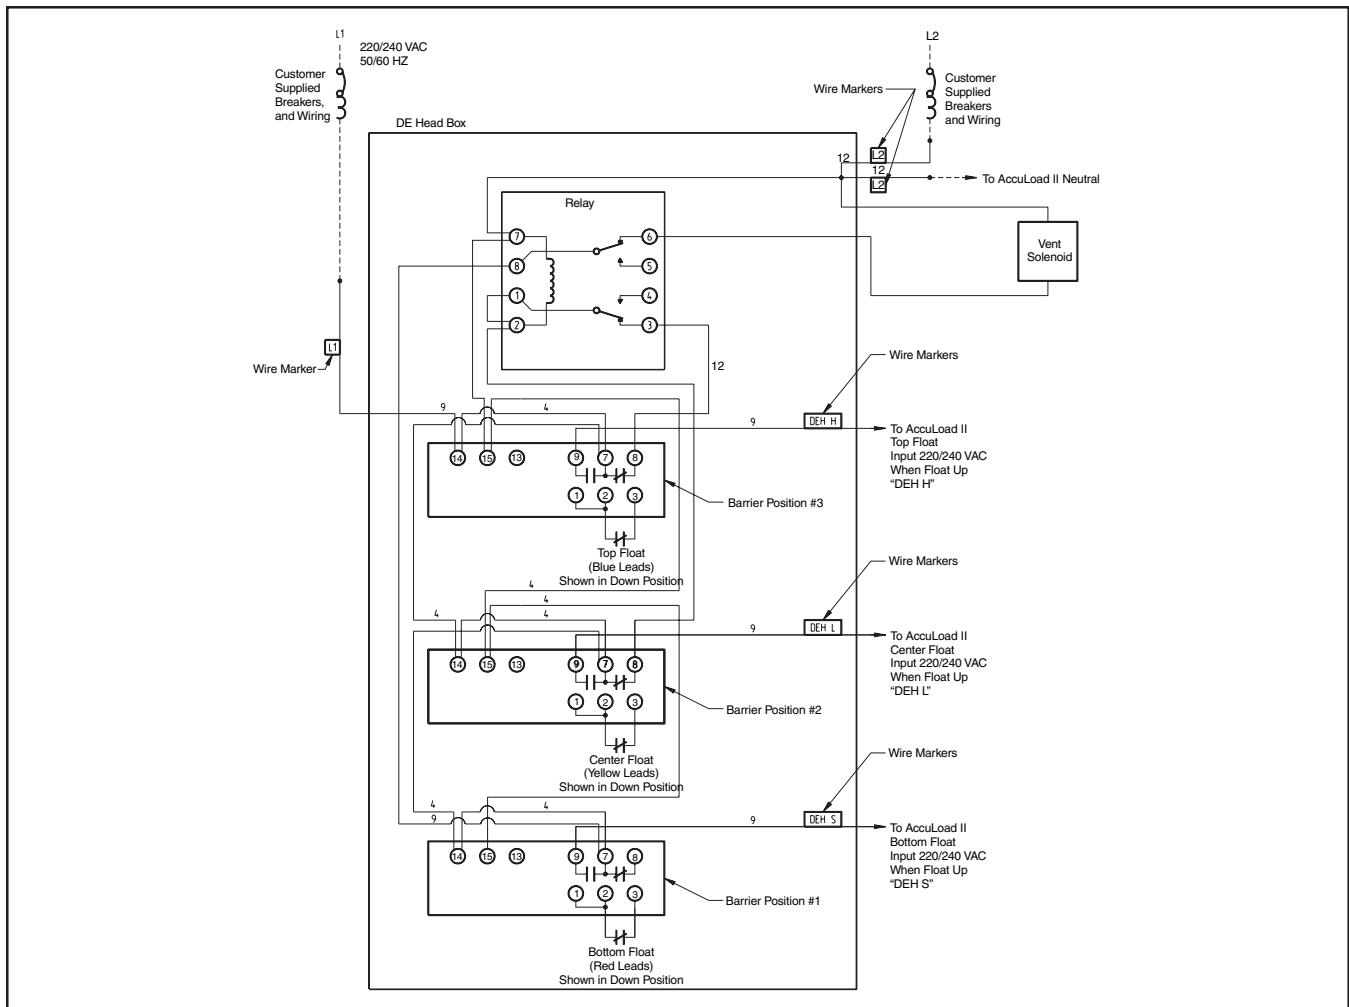

Figure 5 – Wiring Diagram (240 Vac)
1. Connect the main AC power being supplied through L1 to Terminal 14 on the intrinsically safe barrier at position #3. AWG 18 minimum wire size is recommended for all connections (Figure 5).